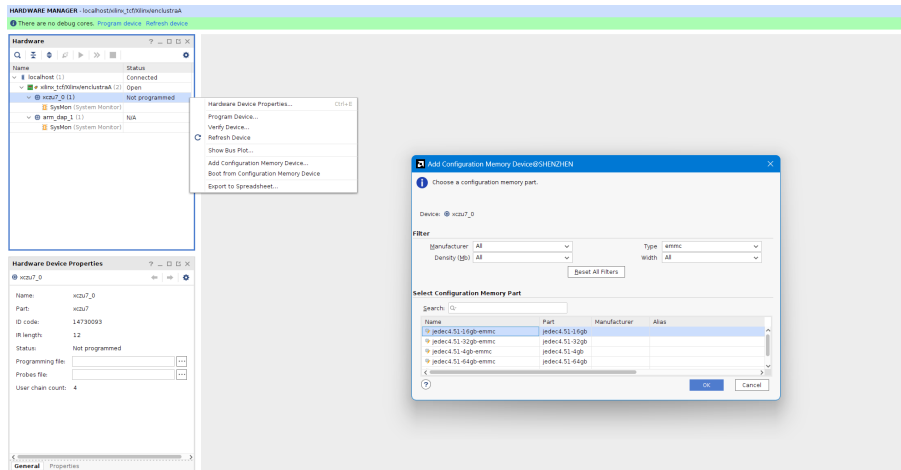

Figure 8: Vivado Configuration Memory (eMMC)
3. Select **Open target > Auto Connect**. The hardware manager should be able to connect to the device as shown in Figure 8.
6. Select **jedec4.51-16gb-emmc** from the listed options. See Figure 8 for reference.